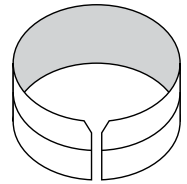

Figure 6
3. Notch two facing corners at 45° angles (Figure 6).